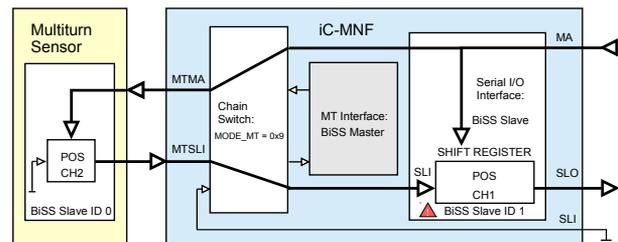

Figure 64: MT operated in BiSS chain (MODE\_MT = 0x9, MODE\_SER = 0x0/0x1)
**Note:** With GET\_MT enabled due to the temporary build BiSS chain, the external multiturn can be addressed with BiSS ID 0 and the iC-MNF (singleturn) with BiSS ID 1 (see Fig. 64). **This means, after setting GET\_MT the BiSS ID of iC-MNF switches from ID 0 to ID 1!**